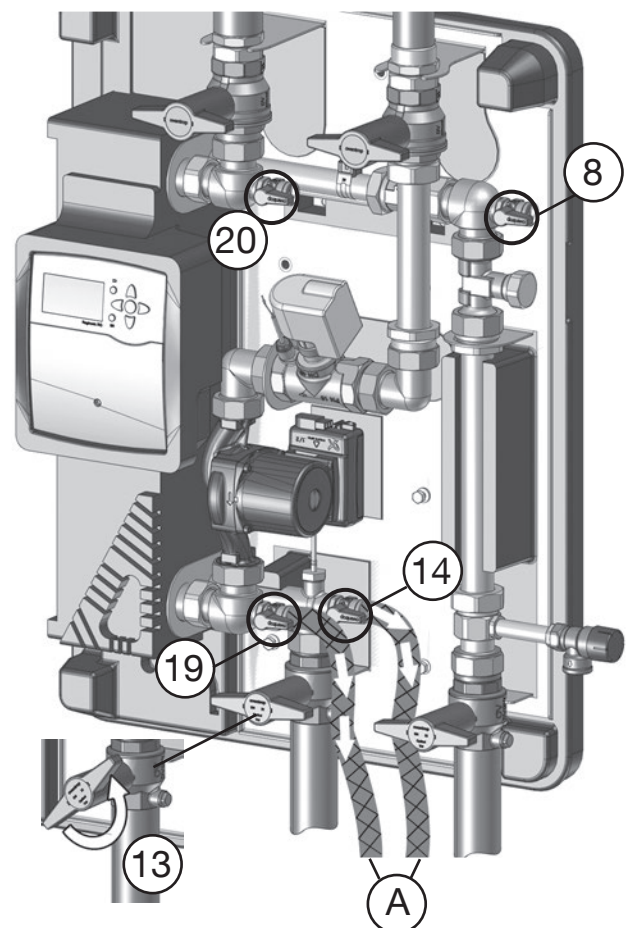

Fig. 8.1: Drain the storage cylinder circuit and the potable water circuit
4. Drain the station. To do so, connect drainage hoses (A) to the fill and drain ball valves (19 and 14) (see Fig. 8.1) and open the ball valves.
5. Open the fill and drain ball valves (20 and 8). If a circulation pipe has been installed, open the isolating ball valve (13), too.